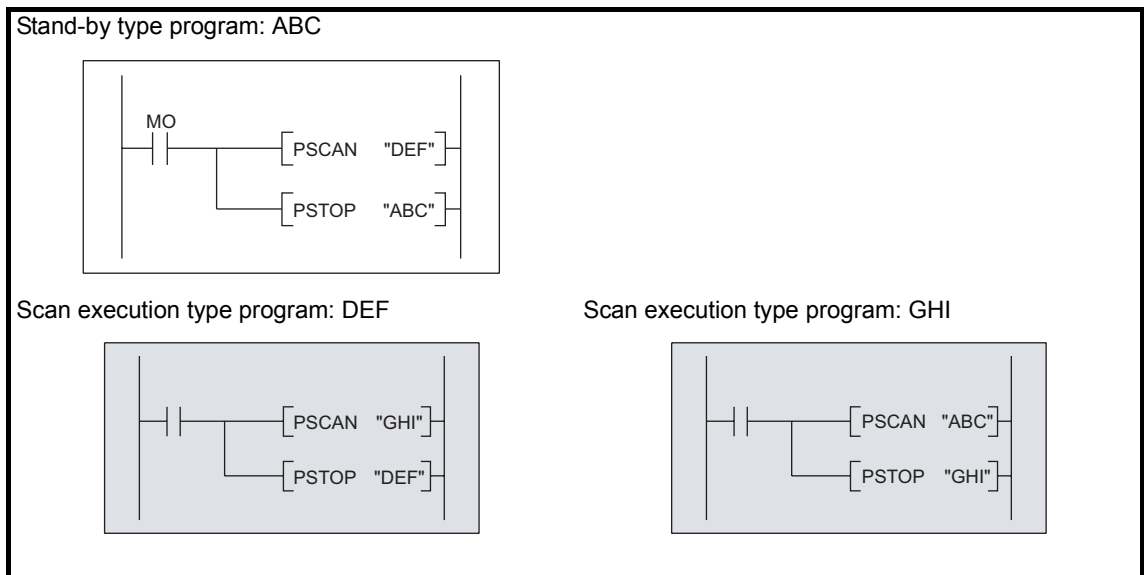

Figure 2.27 Example of changing the execution type (in the case of scan execution type program)
- When the condition is established (the internal relay (M0) in Figure 2.27 turns on), the program "DEF" is changed to a scan execution type program and the program "ABC" to a stand-by type program.